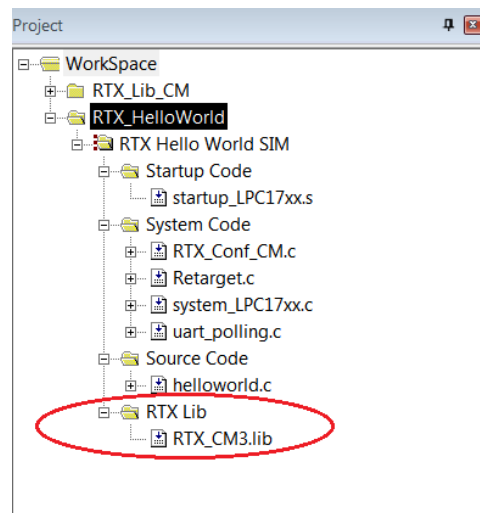

Figure 1.27: Keil IDE: Adding Your Own RTX Library
3. Add the RTX library we built (i.e. RTX_CM3.lib) to the project (see Figure 1.27).